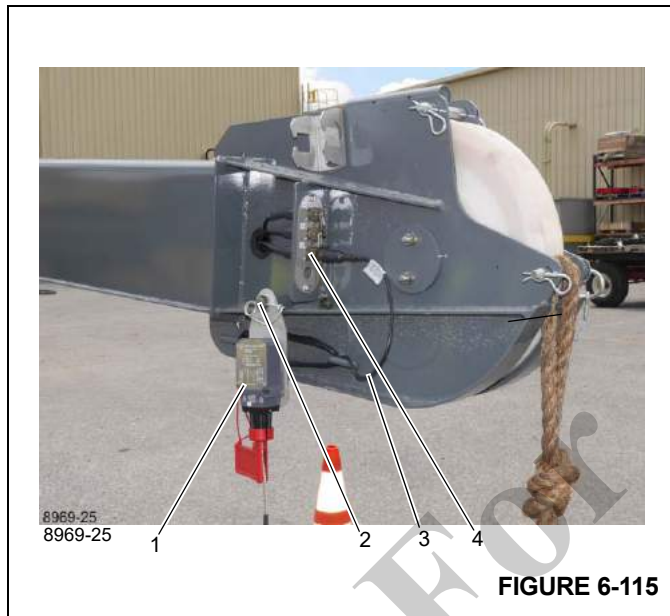

FIGURE 6-115
1. Install the anti-two block switch (1), (Figure 6-115) onto the pin (2), (Figure 6-115) and secure it with a retaining clip.
2. Route the anti-two block cable (3), (Figure 6-115) such that it will not be damaged during crane operation, and connect the anti-two block switch to socket (4), (Figure 6-115).
1. Remove the plug from the socket (4), (Figure 6-115).
2. Remove the anti-two block switch assembly (1), (Figure 6-115) from the pin (2), (Figure 6-115).